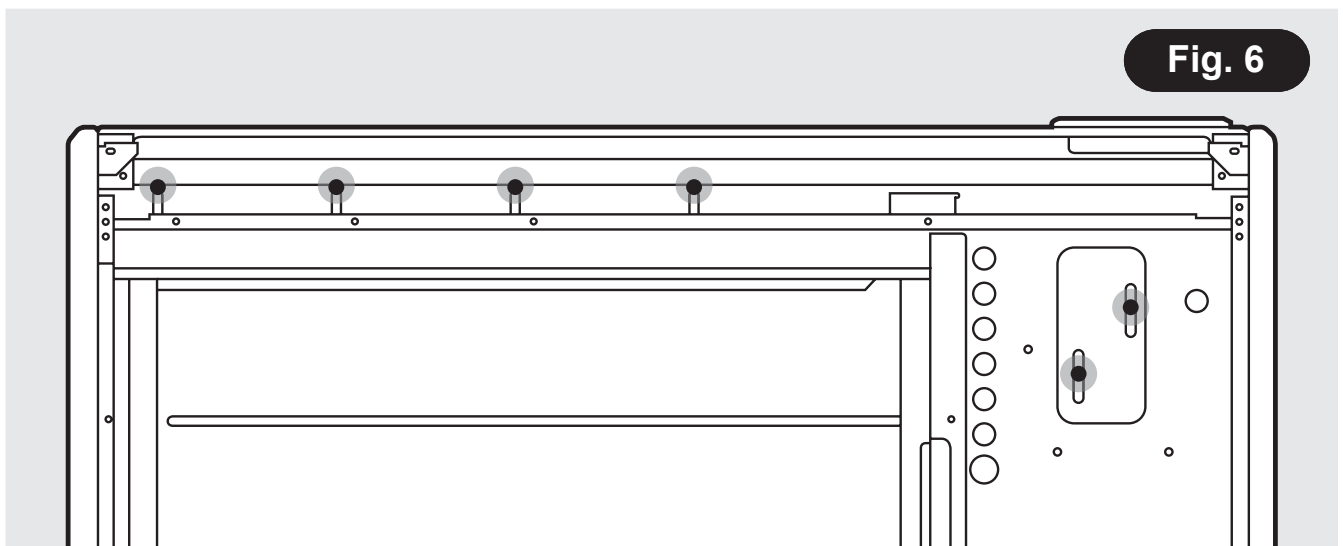

Fig. 6
6. Six fixing positions must be selected for models SSHE100, SSHE125, SSHE150 and at least 4 fixing positions for models SSHE050 and SSHE070. **Fig. 6.**
Ensure the screws retaining the heater to the wall are fully tightened, once the energy retention cells are fully loaded. (**Fig. 6**)